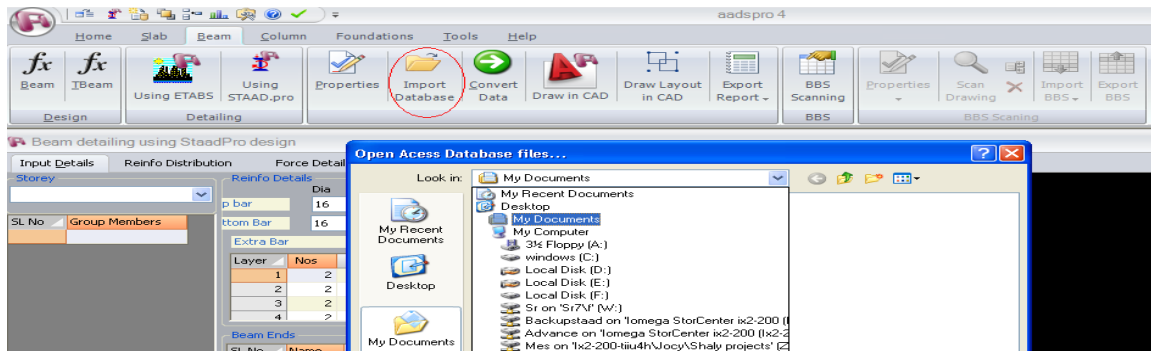

Fig 6.1.3
- Click on the **Import Database** from tool bar (fig 6.1.3)